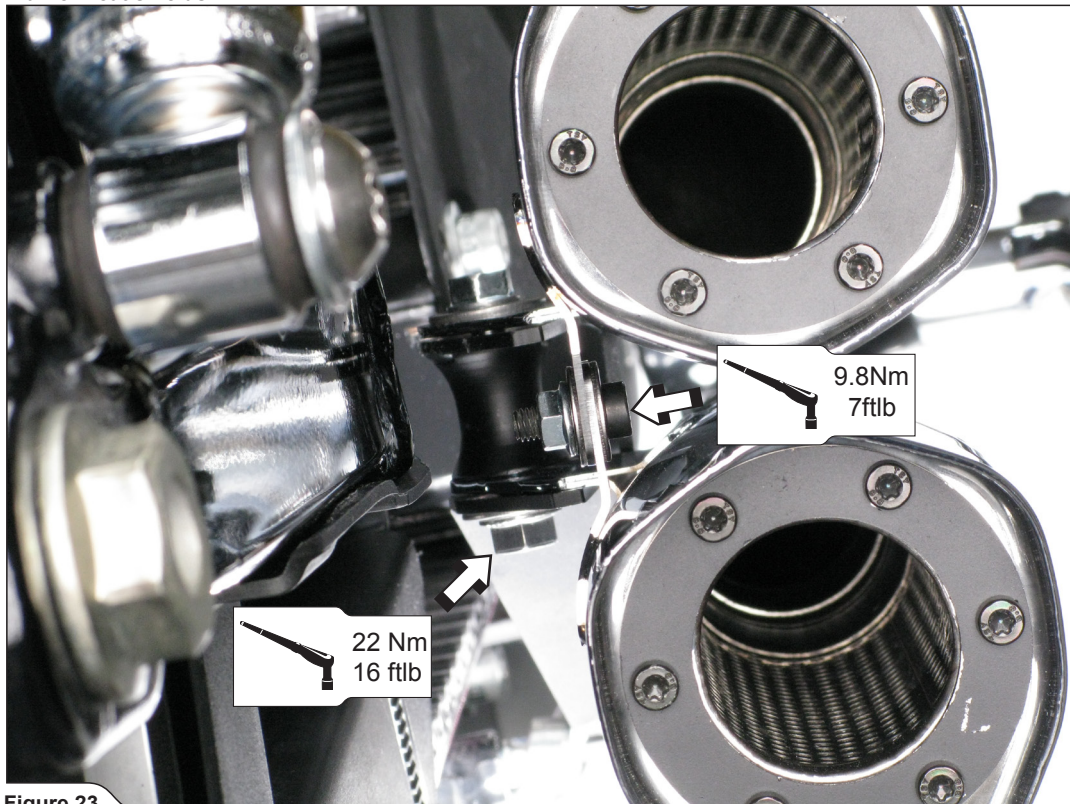

Figure 23
13. Set the mufflers (length wise) and tighten the mufflers' connection bolt and bracket bolt to the specified torques (Figure 23).